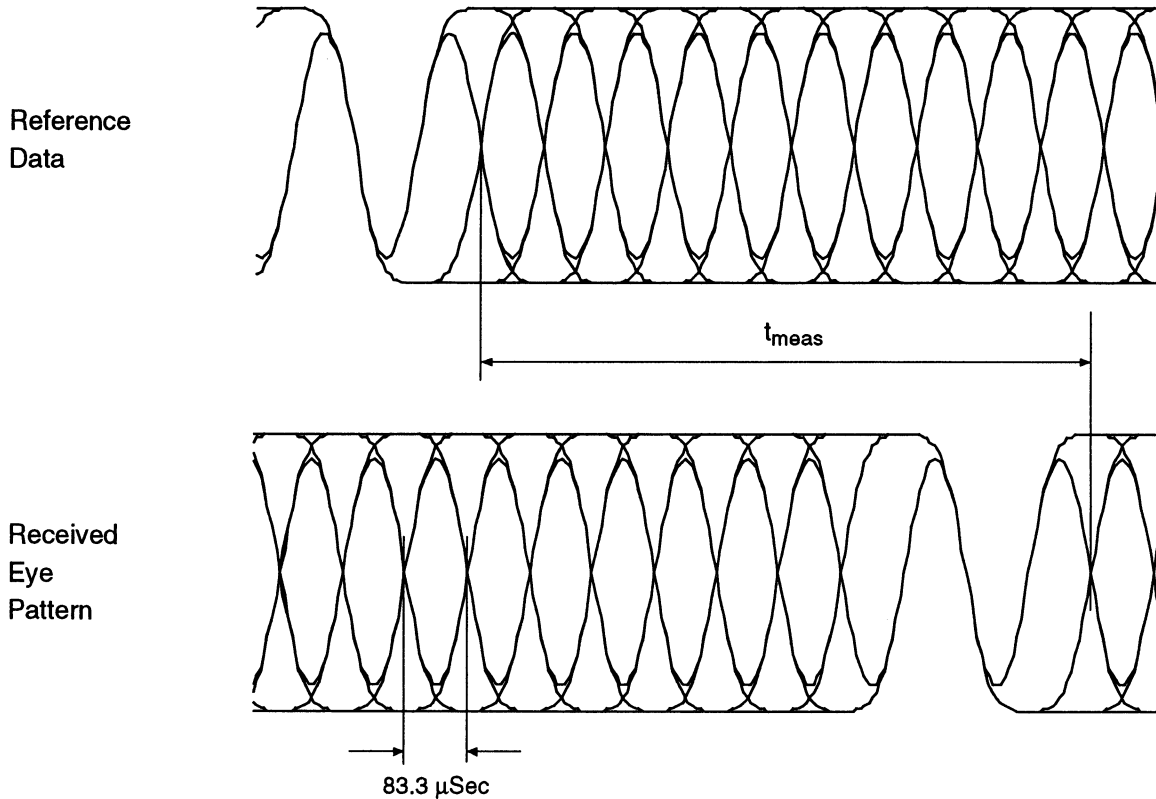

Figure 34. Two-Level Time Delay Measurement #1
| <p>input of the reference RDM (at the RDU punchblock).</p> <p>Step 6. Select DSM/RDM Optimization from the PON Main Menu.</p> <p>Step 7. Type [F] for Phase Optimization.</p> <p>Step 8. Type [D] for DVP.</p> <p>Step 9. Set up the screen to optimize the reference RDM at the prime site.</p> <p>Step 10. Set the Trial field to 0.0 μs.</p> <p>Step 11. Press [F4] to send the parameter to the RDM under test.</p> <p>Step 12. Generate Data Detect on the RDM under test by inserting a 600Ω plug into each M-lead jack on the TX side of the FSK modem for the channel under test.</p> <p>Step 13. Generate Data Detect on the reference RDM by grounding its Data Detect input.</p> <p>Step 14. Set the prime site DVP phase delay to 0.0 μs.</p> | <p>Step 15. Press [F] on the PON to send a PTT to the prime site.</p> <p>Step 16. To generate a coded source, do one of the following:</p> <ul style="list-style-type: none"> • Key up on the desired channel with a service monitor in the SECURENET mode; or • Key up on the desired channel with a portable or mobile radio in the SECURENET mode; or • Key up the CIU in the LOCAL coded mode with the CIU handset. <p>Step 17. Connect the audio output of the reference RDM to channel one on the oscilloscope.</p> <p>Step 18. Do one of the following:</p> <ul style="list-style-type: none"> • Model R5111A - continue with step 19. • Model TDS 420 - continue with step 33. <p>Step 19. Set the scope to trigger on the negative edge of channel 1 (use Normal Trigger, Chop Mode) to display a 12 kbit/sec filtered random data, or eye, pattern (Figure 34).</p> |
- Step 22. Select the scope timebase so the trigger of the reference data and the delayed trigger in the received eye pattern may be observed on the scope simultaneously. This will be approximately 200 $\mu\text{s}/\text{div}$ (see Figure 34).
- Step 23. Measure (approximately) the time delay between the two eye patterns (see Figure 34).
- p. To display the pattern as shown in Figure 34, adjust the vertical and horizontal SCALE knobs.